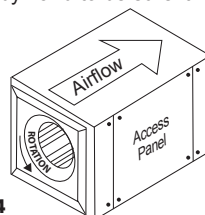

Figure 4
- Start the blower and shut it off immediately to check rotation of the wheel with directional arrow in the motor compartment. Blower wheel should rotate CCW when viewing into the inlet side of the unit. See Figure 4.
2. Unit running backwards	2. Correct as shown in Figure 4